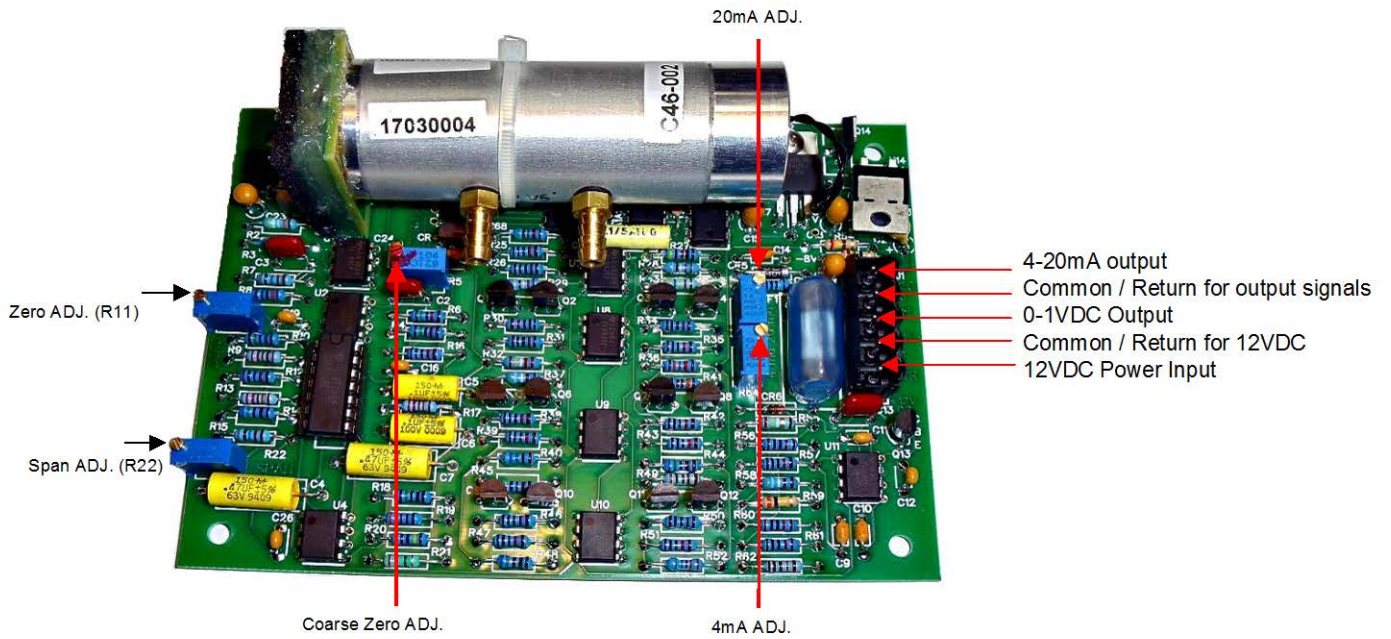

FIGURE 1 (Valtronics Model 2008SDH-1V)
Figure 1 - Model	3
II. DESCRIPTION (See Figure 1)
B. Wiring (See Figure 1)